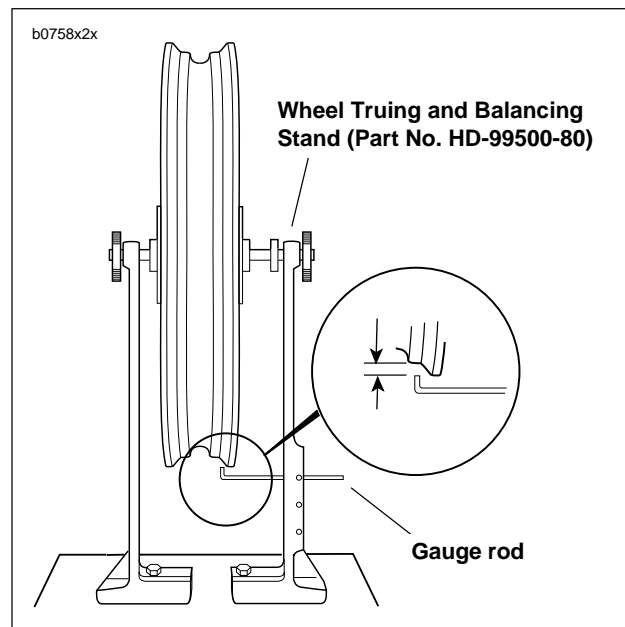

Figure 2-25. Checking Cast Rim Radial Runout
1. See Figure 2-25. Install truing arbor in wheel hub and place wheel in WHEEL TRUING AND BALANCING STAND (Part No. HD-99500-80).